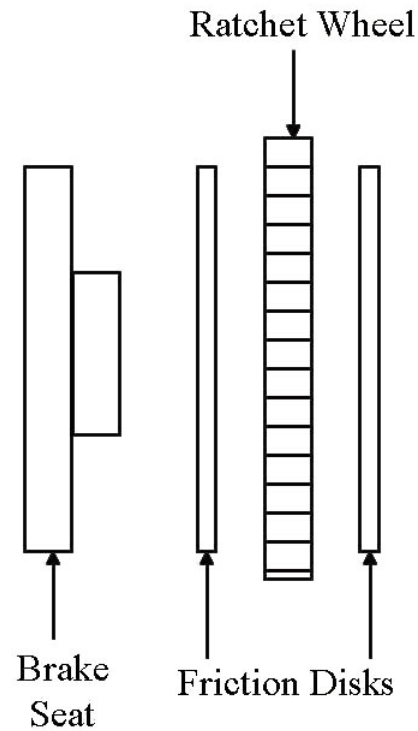

Figure 13
2) For models with two falls (see Figure 13):
- 6) Remove and inspect/replace the ratchet wheel and both friction disks (see Figures 13 and 14).